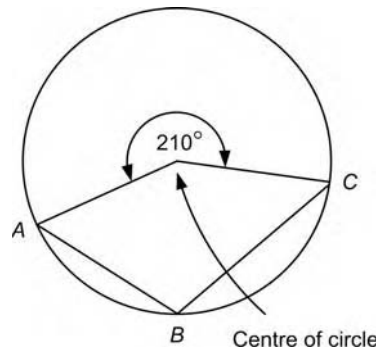

Figure 2.56
85. In Figure 2.56, the $\angle ABC$ is equal to: [B1, B2]